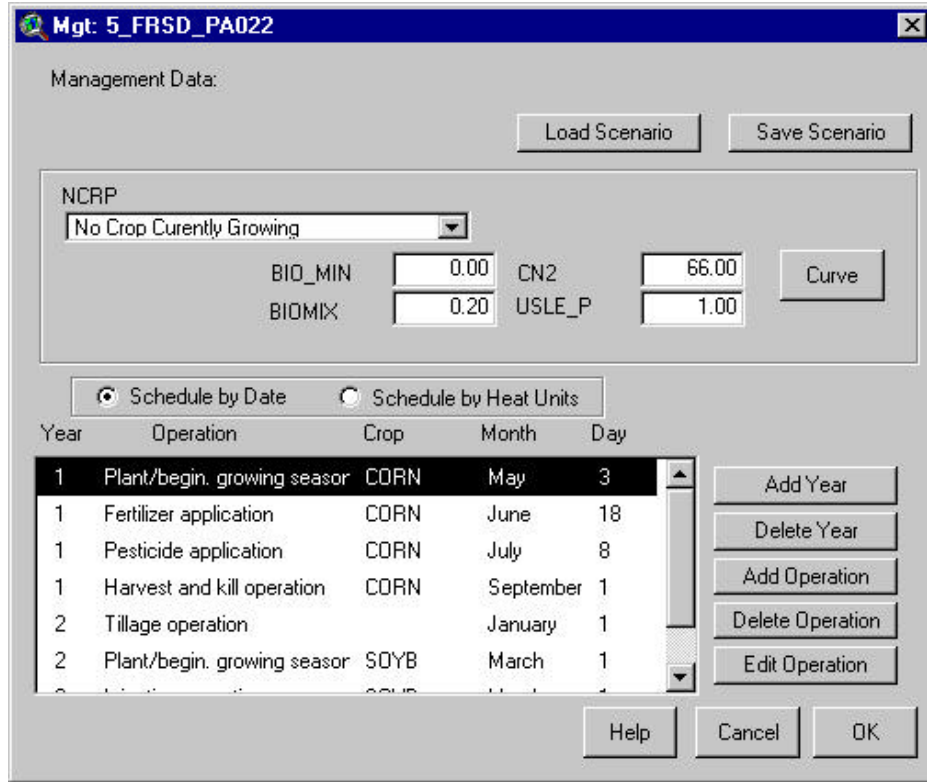

Figure 12.69
- Exit the management editor dialog box: Once all desired changes have been made to the management parameters, click the **OK** button located in the lower right corner of the Management Data dialog box (Figure 12.69), or click **Cancel** to exit the dialog without saving the changes.